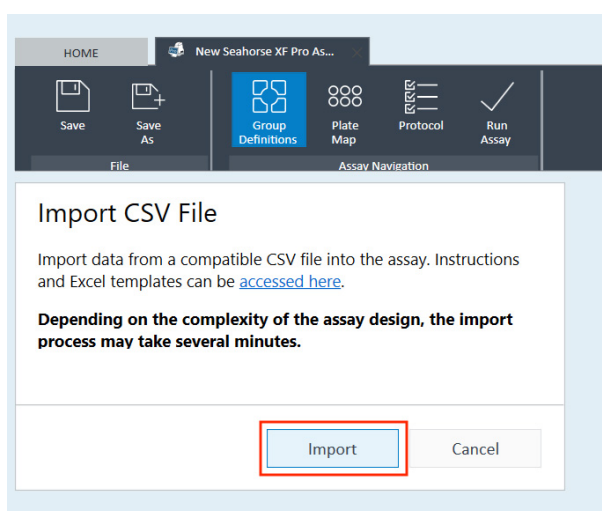
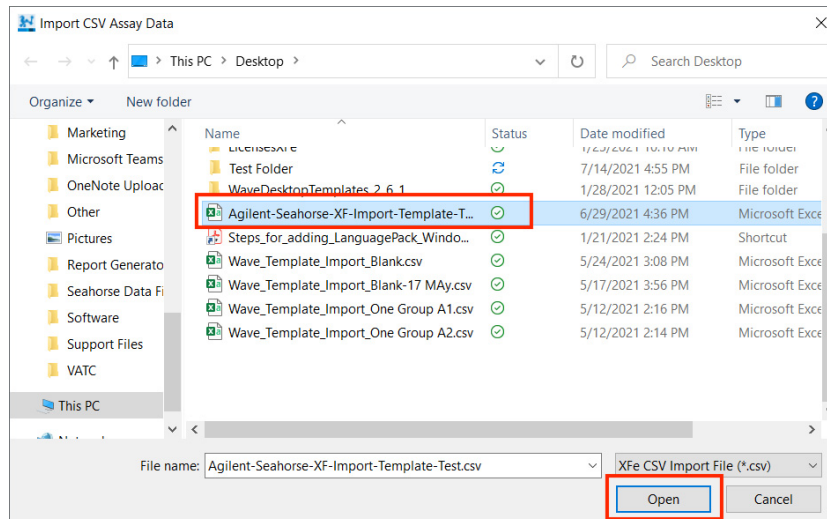
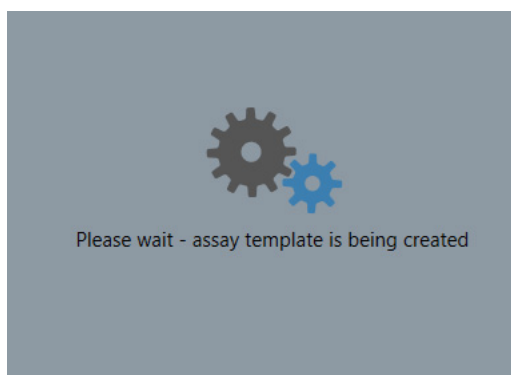

Figure 34. Import CSV view.
Figure 35. Locate the CSV file and click Open to begin the template creation process.
Figure 36. Wave Pro and XF Pro will display this message during the template creation process.
- 13 Now in Wave Pro or XF Pro software, click **Import** (Figure 34), browse to the Excel CSV file, and click **Open** (Figure 35) to begin the template creation process (Figure 36). The time to complete the template creation process depends on the amount of information in the CSV file. In most cases, the process takes less than 1 minute.